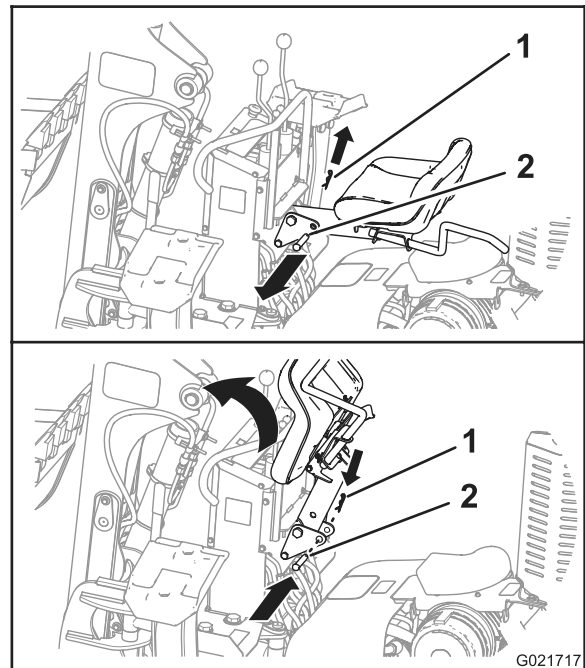

Figure 37
- A. Remove the hairpin from the seat lock pin (Figure 37).
- B. Remove the seat lock pin from the frame of the backhoe and the seat post (Figure 37).
- C. Pivot the seat post upward, and insert the seat-lock pin through the holes in the frame of the backhoe to hold the seat up to make room for removing the nose panel (Figure 37).
- A. Remove the seat lock pin and lower the seat post to the operating position (Figure 37).
- B. Install the seat lock pin through the holes in the frame of the backhoe and the seat post (Figure 37).
- C. Install the hairpin into the hole in the seat lock pin (Figure 37).